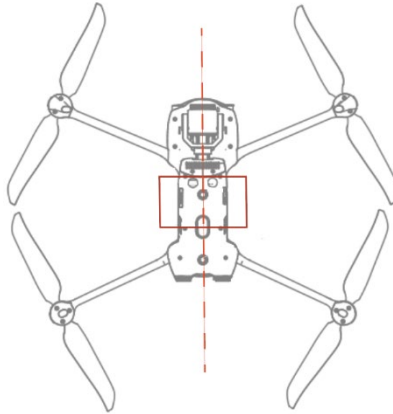
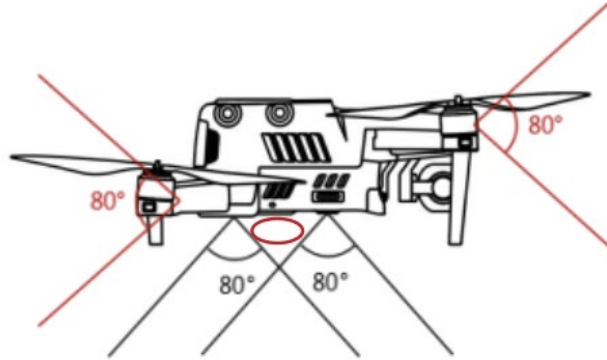

Fig 2-1 Recommended mounted area (bottom view)
Fig 2-2 Recommended mounted location (not affecting the observation range)
- To keep the vision and the performance of the aircraft solid, it is recommended that when users are mounting payload, the mounting point should be located at the center line of the aircraft and should not be beyond the area bracketed in the fig 2-1. Meanwhile, the size of the mounted payload, as circled in fig 2-2, should not be too big that it will extend to the observation range. Otherwise, the normal flight of the aircraft will be affected.